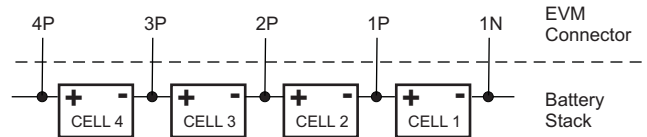

Figure 12. Connection Sequence
1. Connect the most negative terminal (– terminal of cell 1) of the serially-connected, 4-cell battery stack to the 1N PIN of the TB3–TB2 connector as shown in Figure 12.